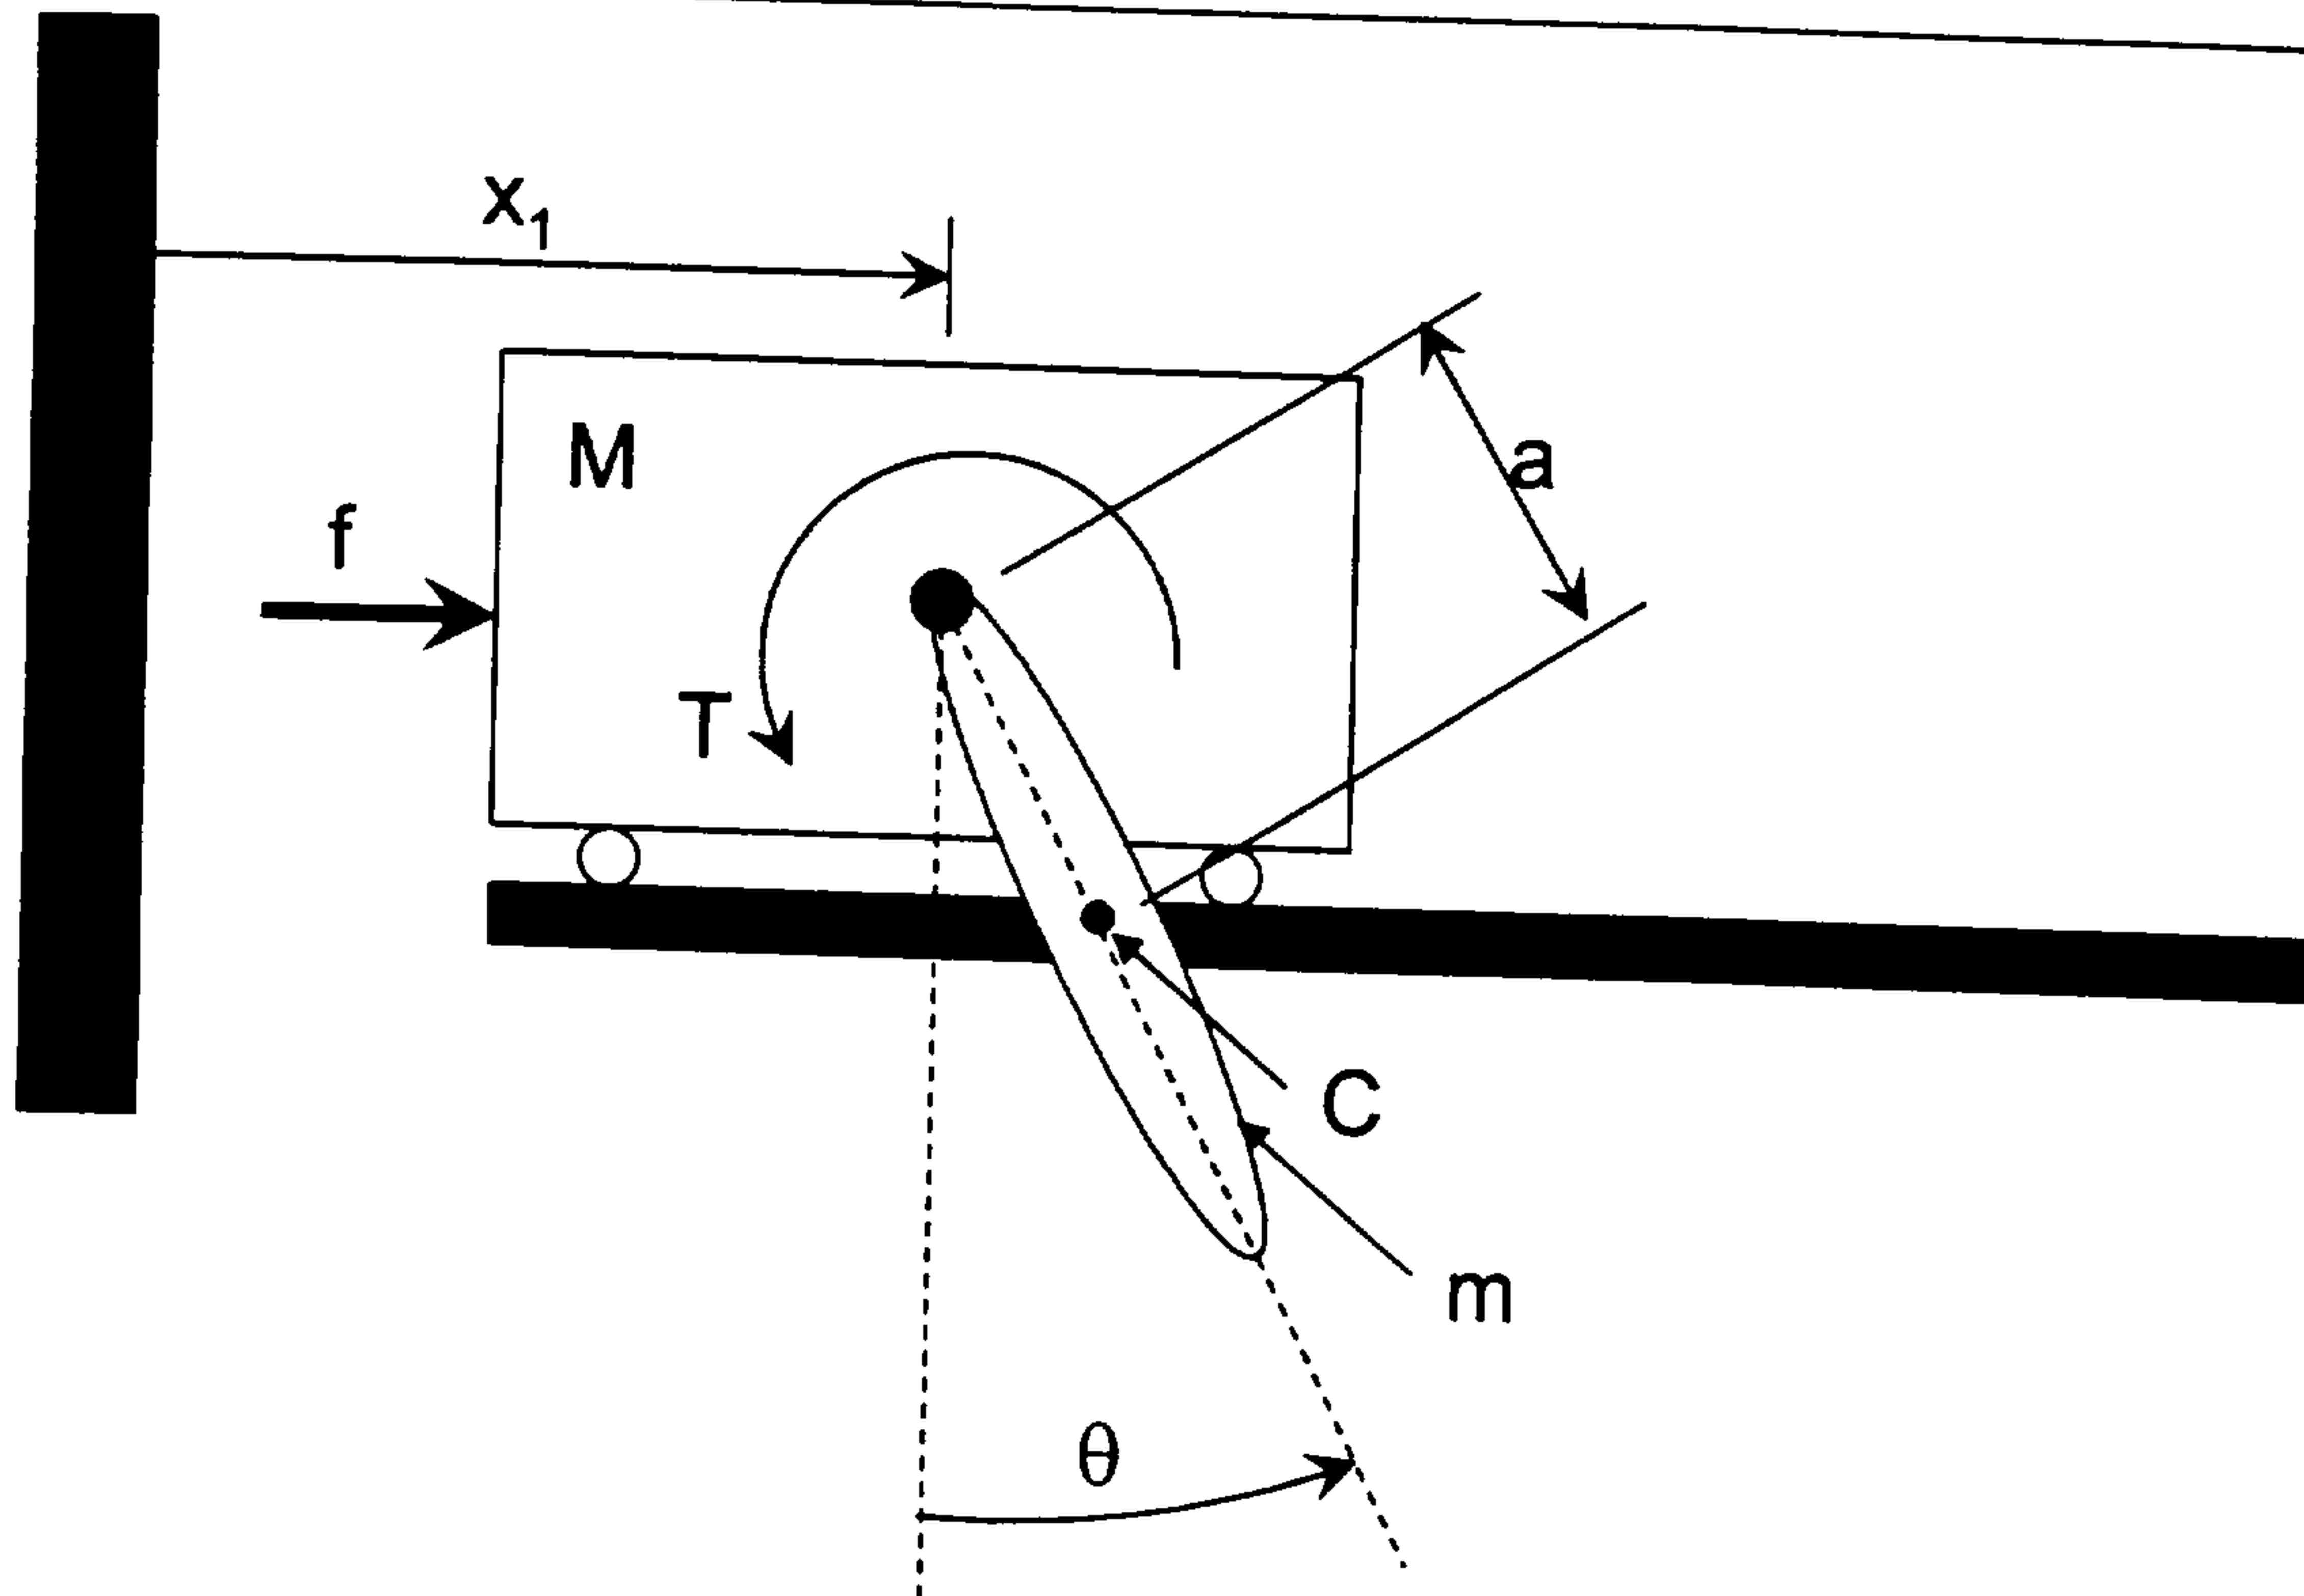
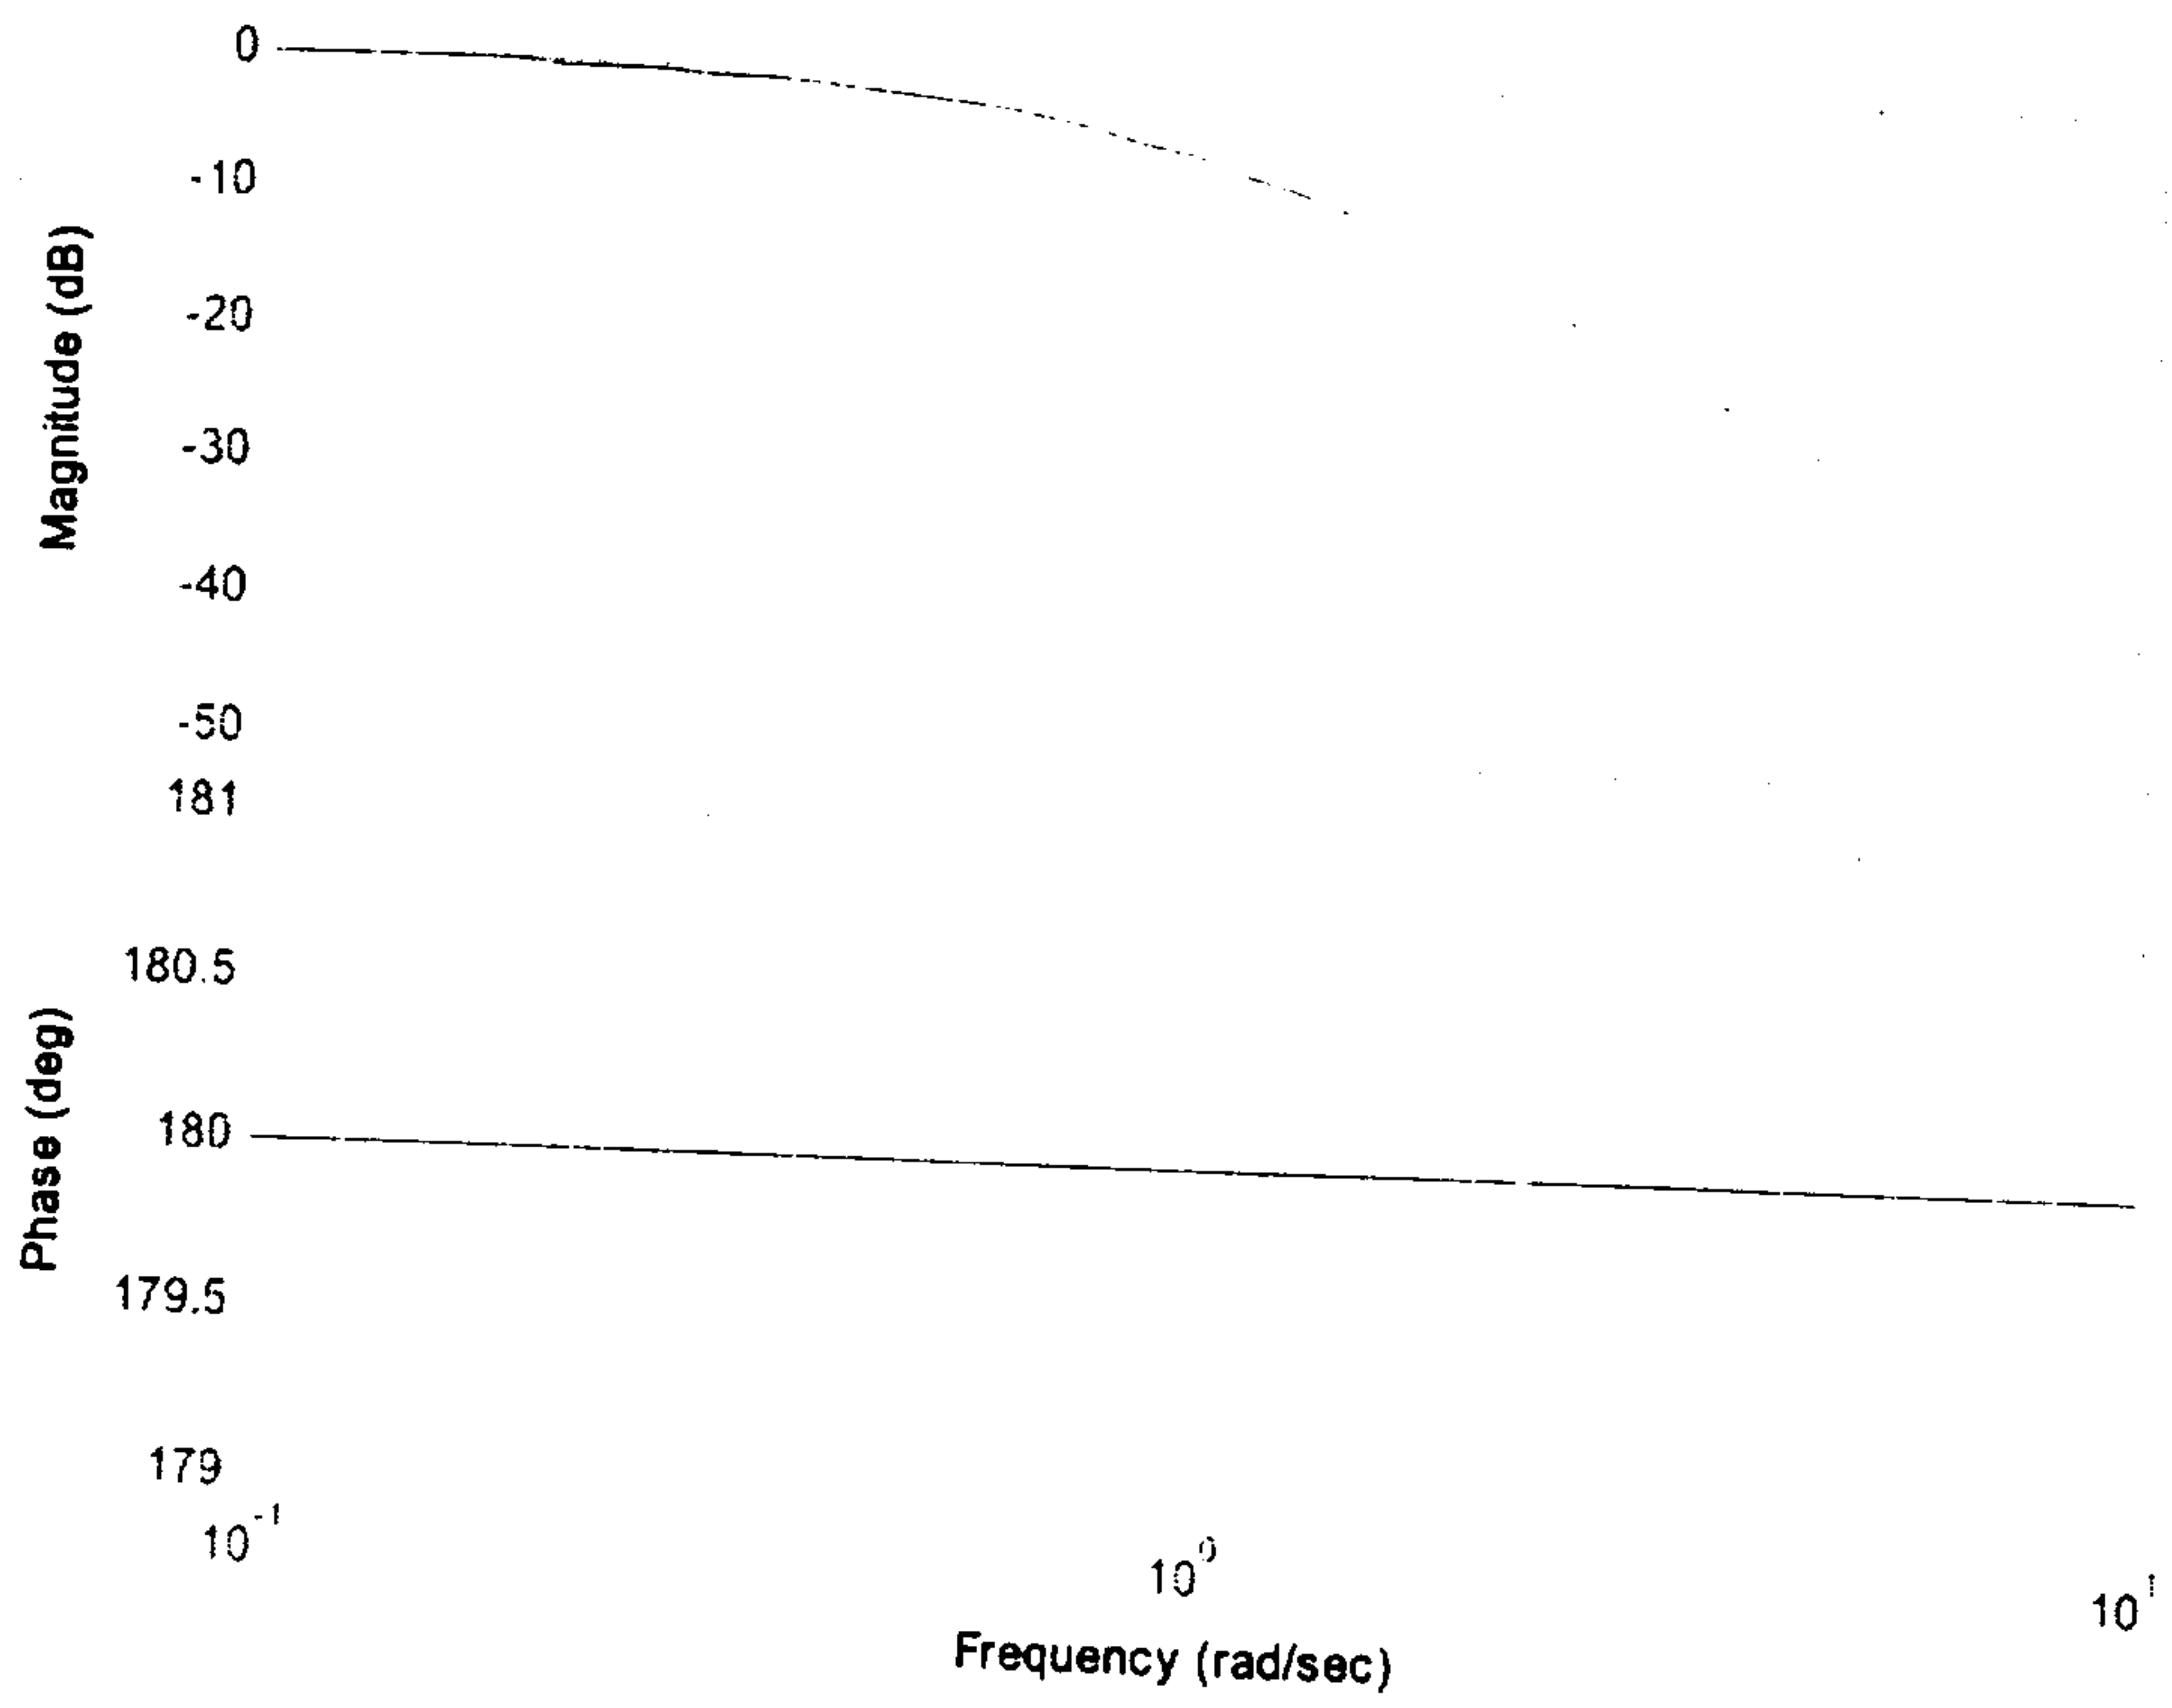

Figure 1: Position Control System with Proportional Gain.
Figure 2 Bode plot of the EM actuator
1. A simplified representation of a gantry robot is shown in Figure 1. The main body of mass,  $M$ , is propelled along a horizontal track by a traction force,  $f$ . The main body contains an actuator for rotating the arm, which will have a grasping device like a hand at its end for picking-up objects. The actuator applies a torque,  $T$ , to the arm. The arm, hand and grasped object have a total mass,  $m$ , and a moment of inertia,  $J$ , relative to its mass center at point  $C$ . Find the equations of motion for  $x_1$  and  $\theta$  in terms of the given quantities, and the inputs  $f$  and  $T$ .
2. Figure 1 shows the block diagram of a position servo that consists of an electromechanical (EM) actuator and a PID controller. Figures 2 and 3 show the Bode plots for the EM actuator and the closed-loop system respectively, which were obtained during the tuning of the PID controller.